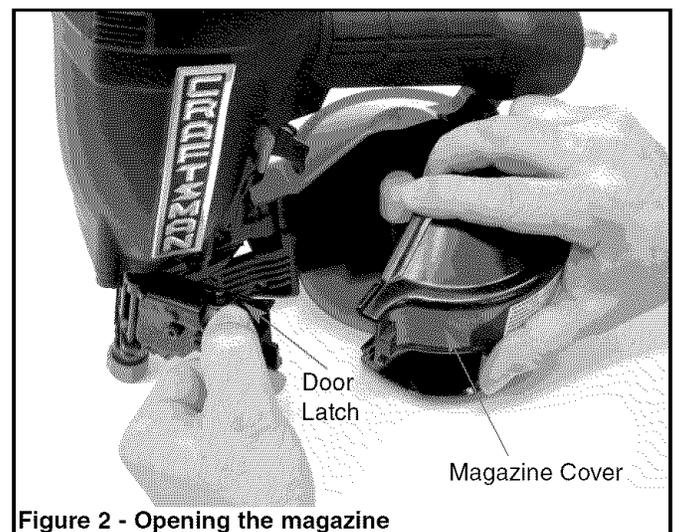

Figure 2 - Opening the magazine
Refer to Figures 2 through 6, (pages 3 and 4).
- Push the door latch down and swing the door open; then swing the magazine cover open (see Figure 2).